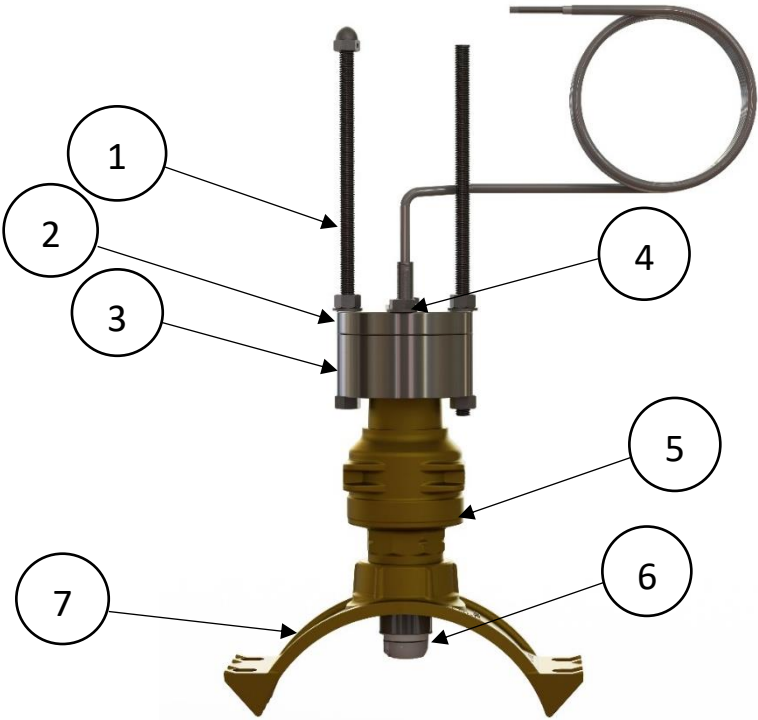

Figure 1. Drinking Water unit installed in pipe and detail of installation components.
7. Open ⑤ 2" [50mm] valve and insert ⑥ sensor/mater assembly completely into process stream. The ② cap mater should be completely flush with ③ remover cap (as shown in figure 1).
8. Secure the ③ cap and ② mater using the ④ two hex nuts and washers. Tighten hex nuts all the way to mater wrench tight.